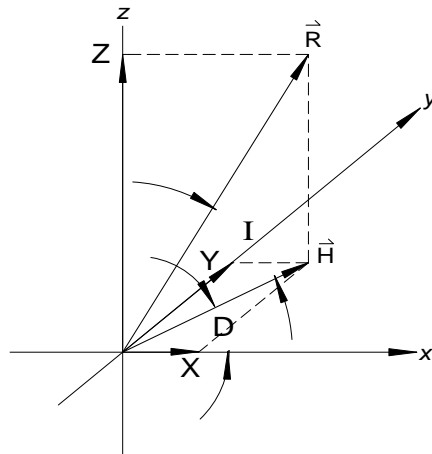

Figure 4-1 Vector representations of a magnetic field
Magnetic fields are vectors. At any point in space a magnetic field has a magnitude and a direction. This is illustrated in Fig. 4-1.
A vector is usually represented graphically by an arrow which indicates the direction of the vector and has a length which is proportional to the vector magnitude. A magnetic field vector can be separated into three vector components (X, Y, Z) which are at right angles to one another. These are called the rectangular components of the vector. The magnitude (R) of the vector is determined by squaring the component vector magnitudes, summing the squares and then taking the square root of the sum. The magnetic field vector can also be represented in polar coordinates by two angles (I and D) and a magnitude (R). In Fig. 4-1 H is the component of the magnetic field vector in the X - Y plane, which is usually chosen to be the horizontal plane.